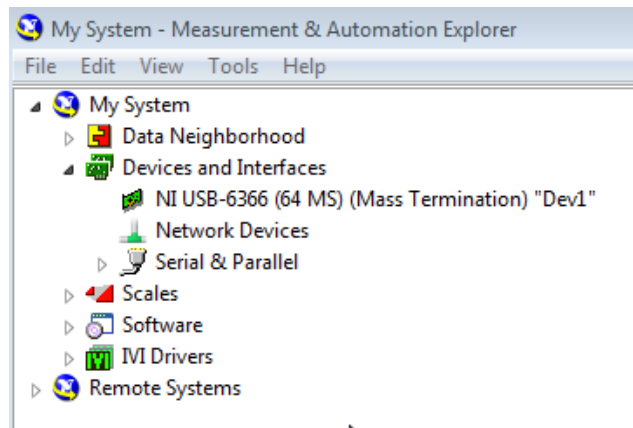

Figure 5: USB-6366 should be visible in NI MAX
- c. Turn on USB-6366, computer should recognize. To confirm proper installation navigate to, Start Menu > All Programs >> National Instruments > NI MAX. NI USB-6366 should be visible (Figure 5).